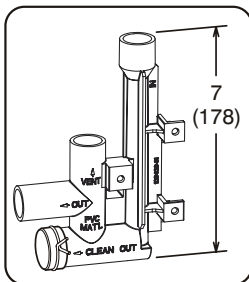

FIGURE 49
- 3 - Install the cap over the clean out opening at the base of the trap. Secure with clamp. See FIGURE 49.
- 4 - Install drain trap using appropriate PVC fittings, glue all joints. Glue the provided drain trap as shown in FIGURE 49. Route the condensate line to an open drain.